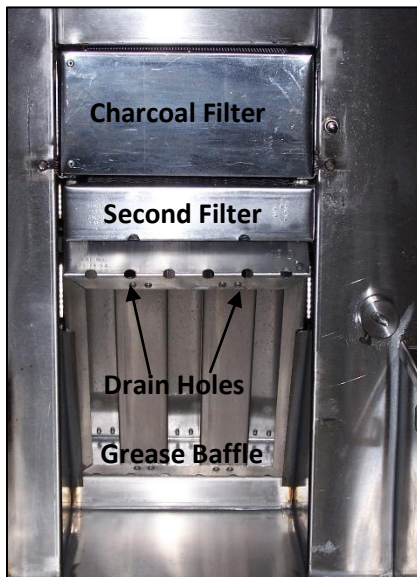

Figure 5
- **Remove the charcoal filter from the plastic bag.** Insert it into the tracks above the second filter. Figure 5.